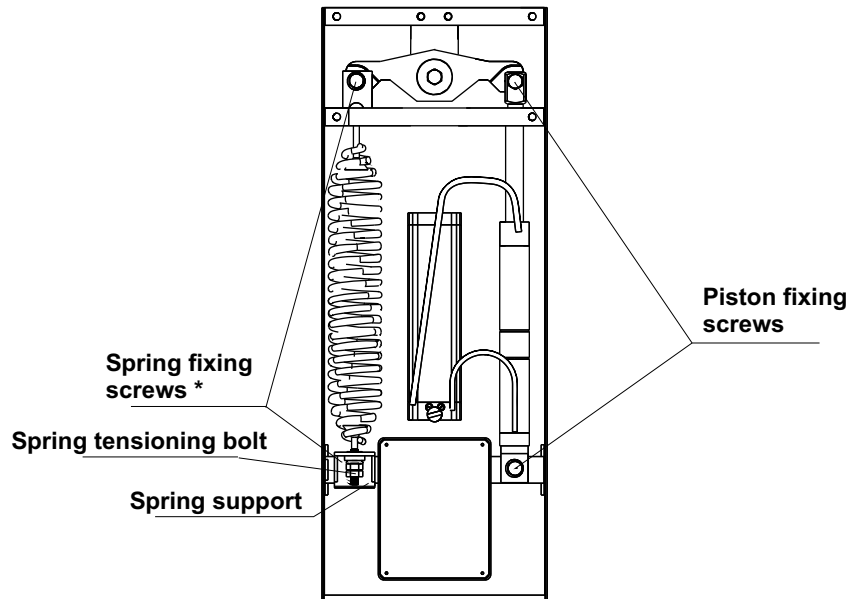

Fig. 3
- Remove spring and piston by unscrewing the bolts shown in Fig.3